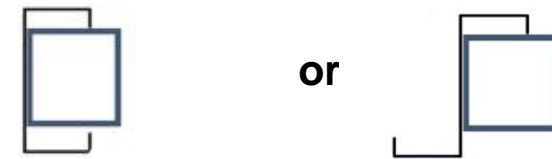

Figure 4
- On the adjacent metal rafter side, the adaptor tube should be mounted inside of purlin channel as shown in Figure 4. Ensure that the Adaptor Tubes are mirrored to each other between purlins.